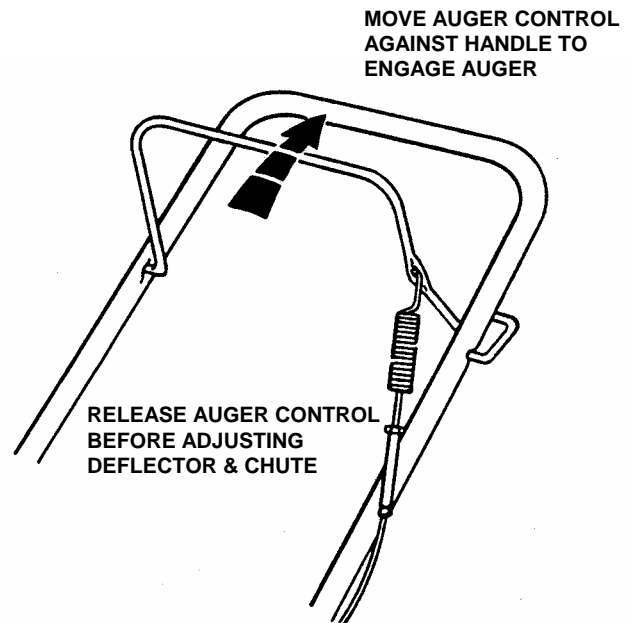

FIGURE 2.6
1. Pull auger control against handle to engage auger. See Figure 2.6.